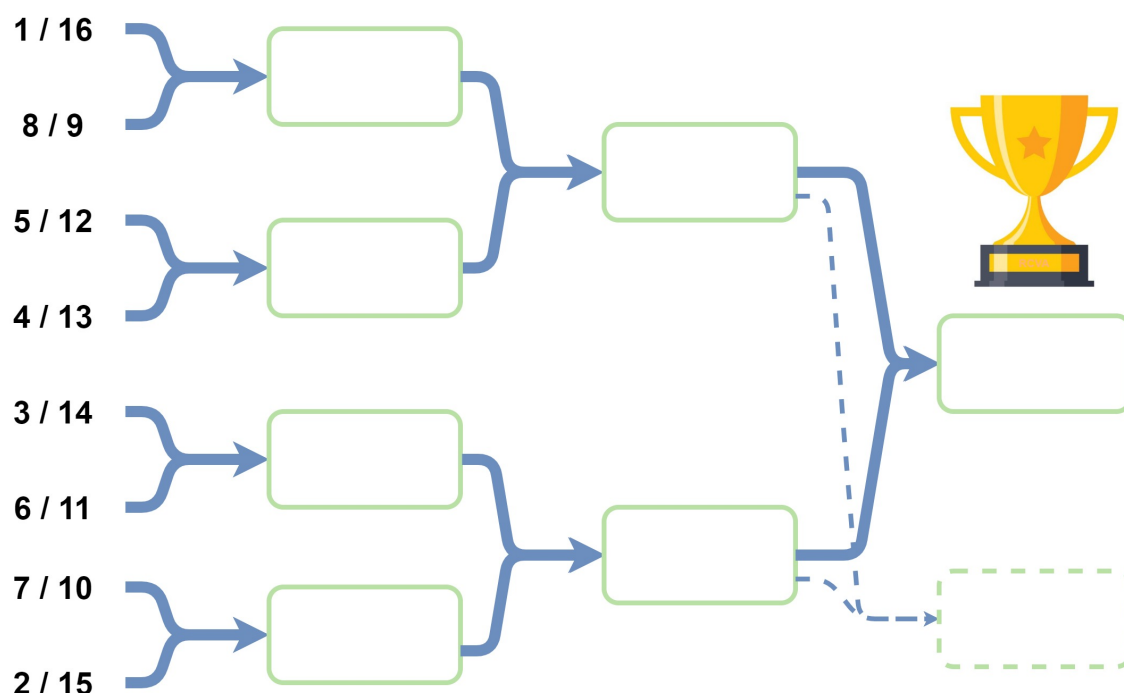

Figure 16 – Tree of the final phase
Each team that wins its play-off match will be included in the main draw of the final phase of the match (B). At the end of the play-off phase, the tree of the final phase of the match (B) presented in Figure 16 may be revised to more accurately represent the level of each team.